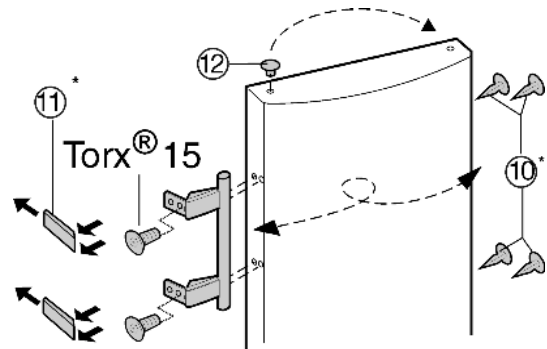

Fig. 8
- Lift the stopper *Fig. 8 (12)* out of the door bearing bush and transfer it.
- Detach door handle, stoppers *Fig. 8 (10)* and pressure plates *Fig. 8 (11)* and transfer to the opposite side.